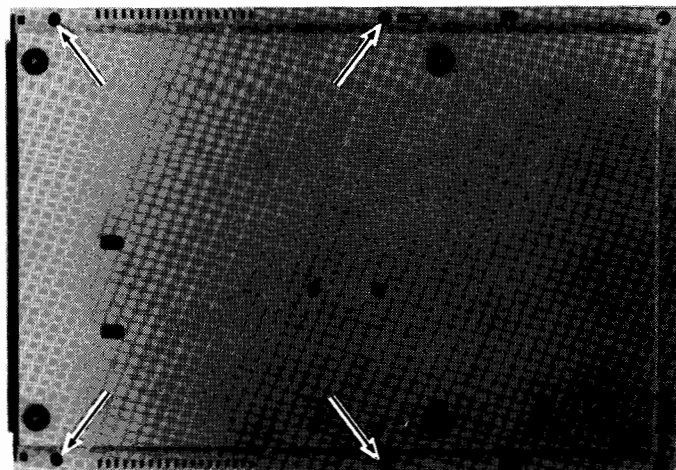

Figure 4-4. Base Cover Removal Screws
3. Remove the four screws shown in Figure 4-4.